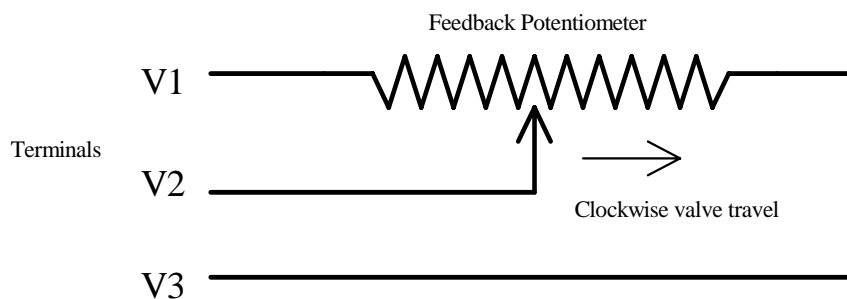

FIGURE 4-5 1K Feedback Potentiometer Schematic
- The terminal connections V1, V2, and V3 are detailed in Figure 4-5.